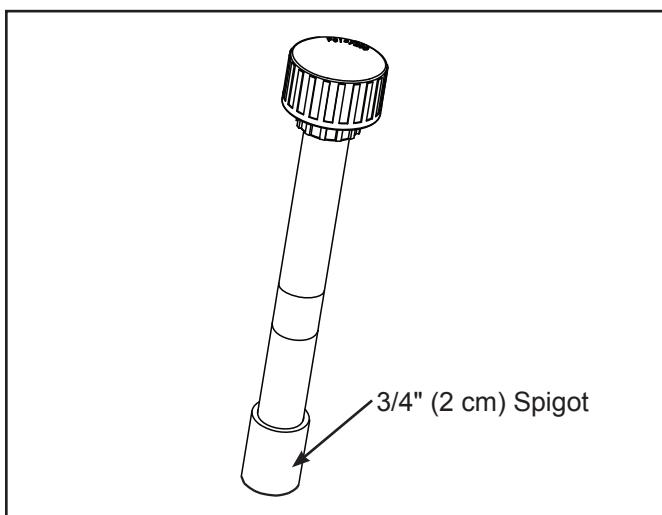

Figure 1. Flexible Hose 3/4" (2 cm) Pipe Spigot
3. Using a standard pipe coupler or reducer, glue the existing water inlet tubing of the canister to the 3/4" (2 cm) pipe spigot that is attached to enclosed flexible hose assembly. See Figure 1.